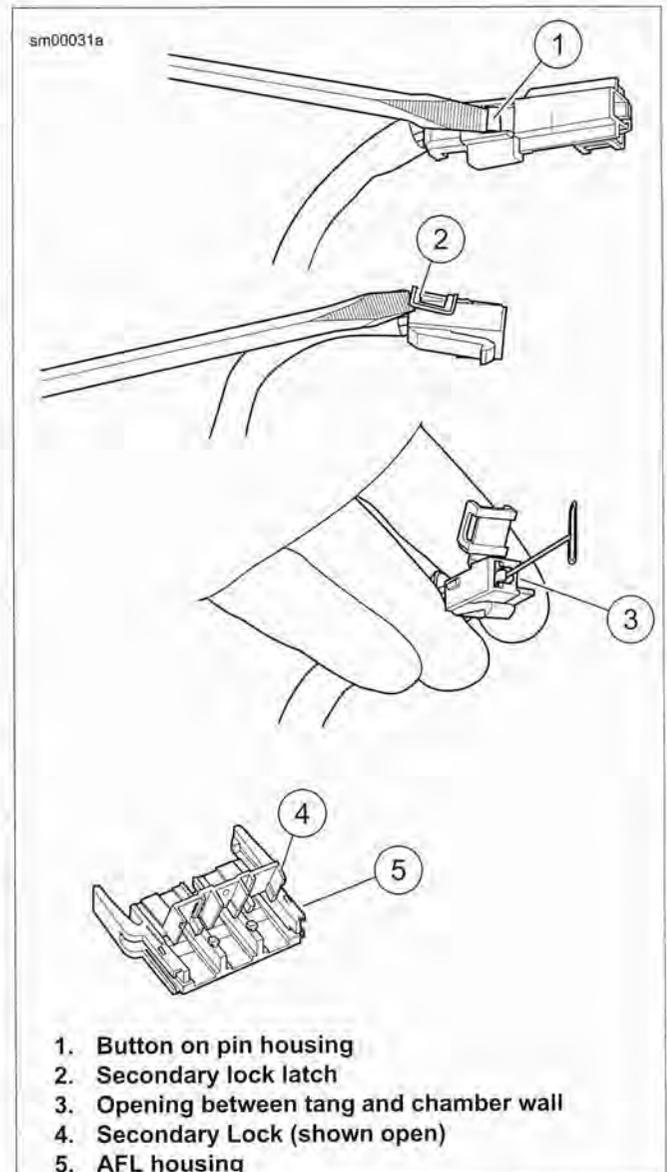

Figure A-10. Delphi 480 Metri-Pack Unsealed Connector: Remove Socket Terminal
See Figure A-10. An AFL housing (5) is used on many ignition/light switches. The secondary lock (4) must be opened before removing the terminal from the housing.
See Figure A-10. Using small flat blade screwdriver, press button (1) on pin housing (red wire) side of the connector and pull apart the pin and socket housings.
1. See Figure A-10. Bend back the latch (2) slightly and free one side of secondary lock, then repeat to release the opposite side. Rotate the secondary lock outward on hinge to access terminal in chamber of connector housing.
2. On the mating end of the connector, note the tang in the square shaped opening centered next to the terminal. Gently insert the point of a stick pin or large safety pin into the opening (3) between the tang and the chamber wall until it stops.